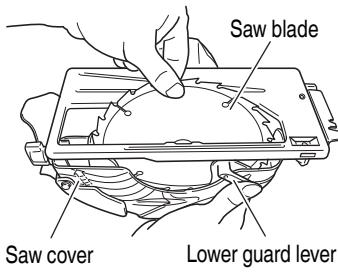

Fig. 16
- (2) Depress the lock lever, lock the spindle, and remove the left-hand bolt and washer (B2) with the box wrench.
- (3) While holding the lower guard lever to keep the lower guard fully retracted into the saw cover, remove the saw blade (Fig. 16).